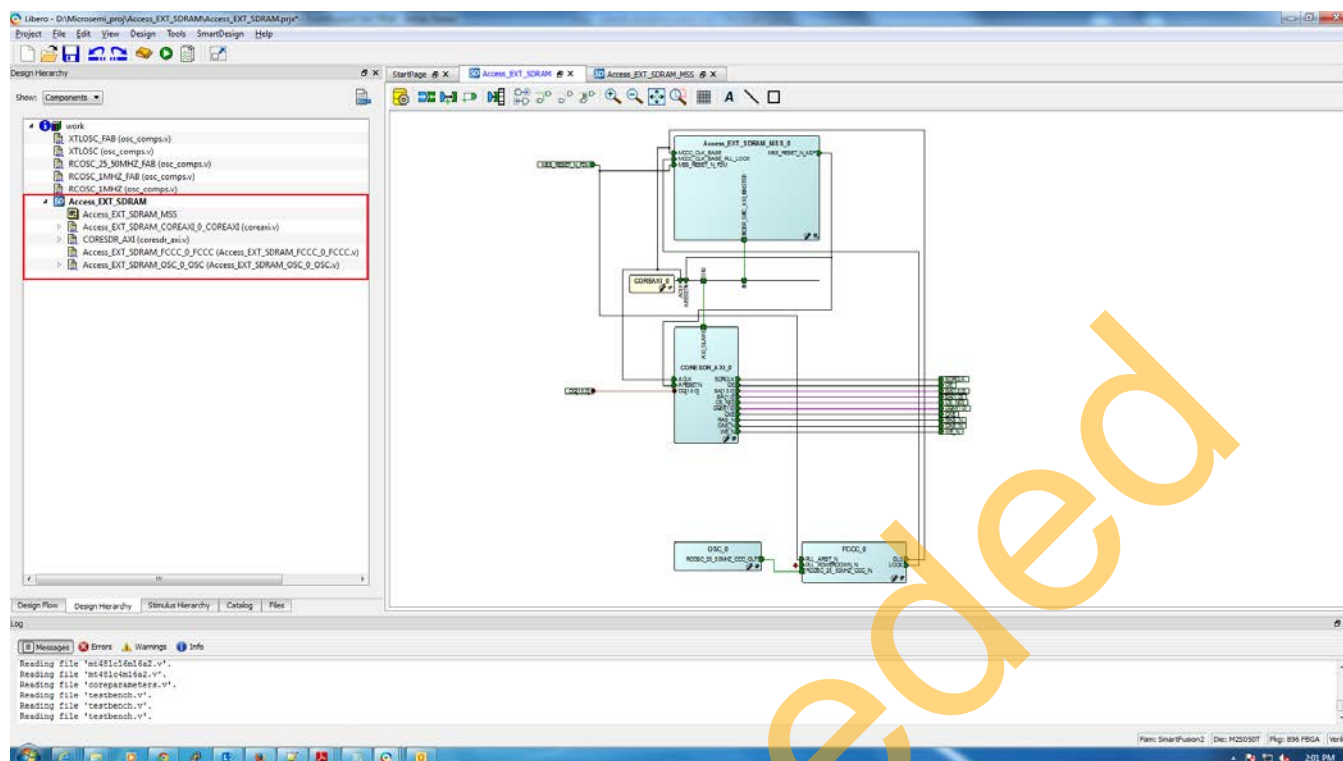

Figure 25. Design Hierarchy
3. After generation, you can see the design hierarchy in the **Design Hierarchy** pane of the Libero SoC, as shown in Figure 25.